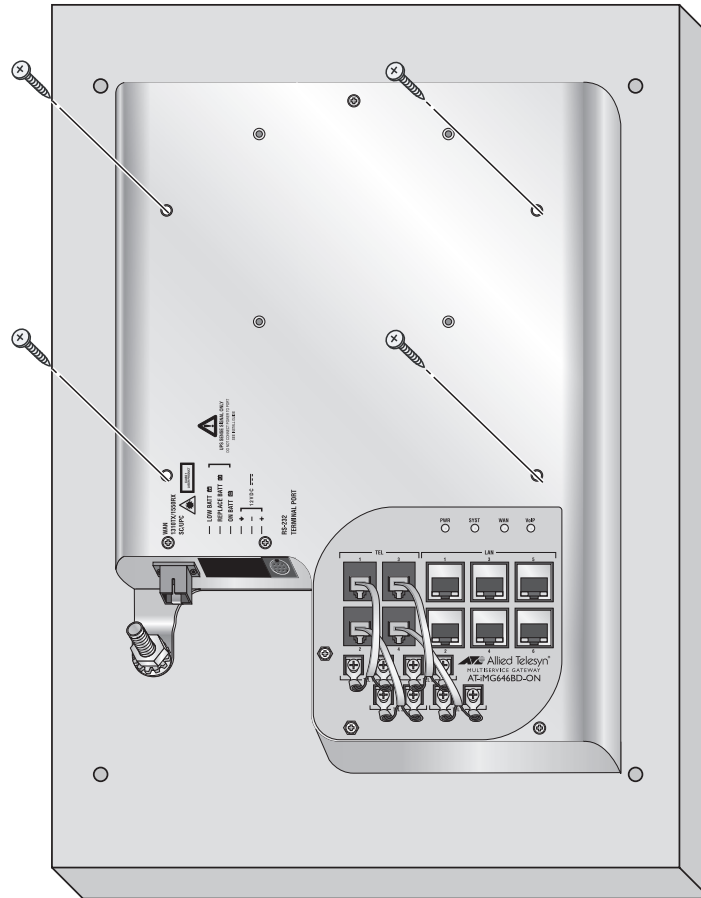

Figure 49. Securing the Gateway to the Mounting Surface
- Secure the gateway to the mounting surface with the four wood screws provided, starting with the upper right corner, as shown in Figure 49.